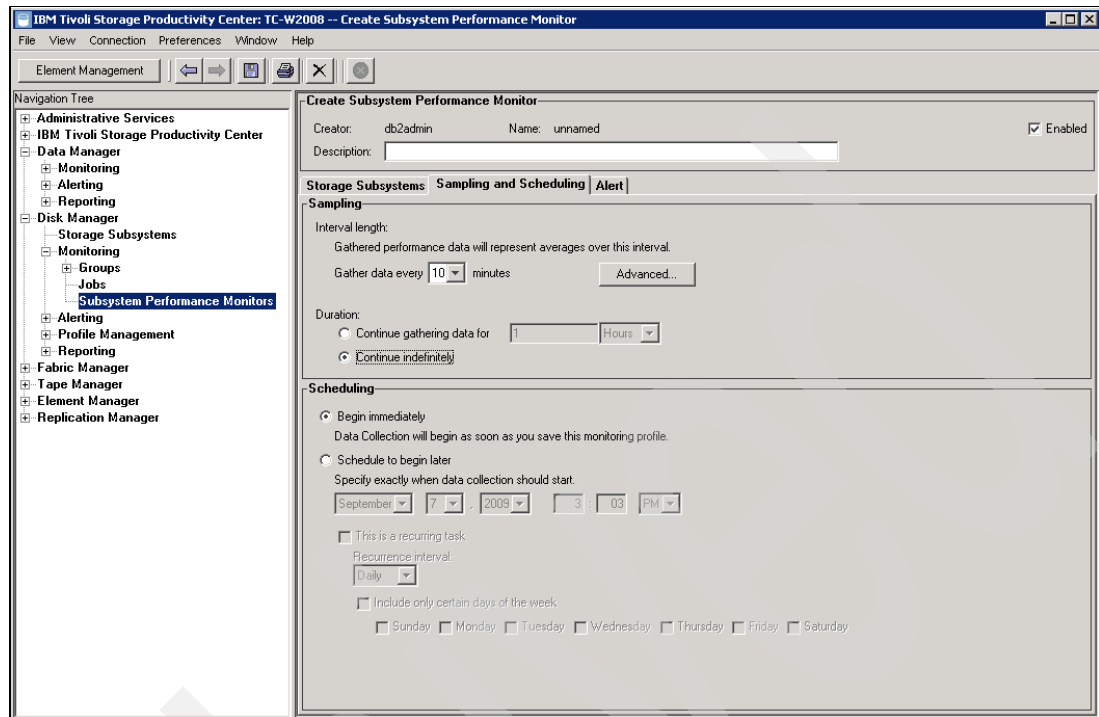

Figure 9-24 Sampling and scheduling
2. Select the **Sampling** and **Scheduling** tabs to configure the interval length, duration, and scheduling of the Performance Monitor job to be submitted, as shown in Figure 9-24.